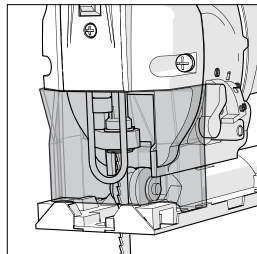

Fig 9
- The front guard (**Fig. 9**) clips over the front of the machine, below the laser guide and in front of the steel blade guard.